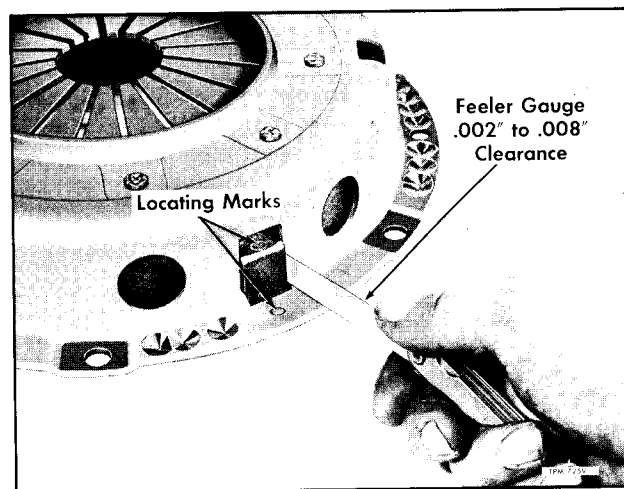

Figure 62—Clutch Cover-To-Plate Alignment Marks and Driving Lug Clearance Check
NOTE: Check clearance between driving lugs of pressure plate (29) and mating slots in clutch cover (28) in manner shown in figure 62. If clearance is greater than 0.008", examine cover and lugs of pressure plate for wear and if necessary, replace worn parts.
If locating marks "O" on cover and pressure plate (fig. 62) are not visible, mark parts as shown. Remove pressure plate retracting spring bolts (20), remove springs (19), then separate pressure plate from cover.
1. Apply light coat of graphite grease on sides of pressure plate driving lugs; then install plate in cover, making sure balance mark "O" on cover (28) is matched with corresponding mark on pressure plate (29). Refer to figure 62.
2. Install three retracting springs (19) on pressure plate (29). There must not be any clearance between clutch spring and retracting spring when spring attaching screws are tight.